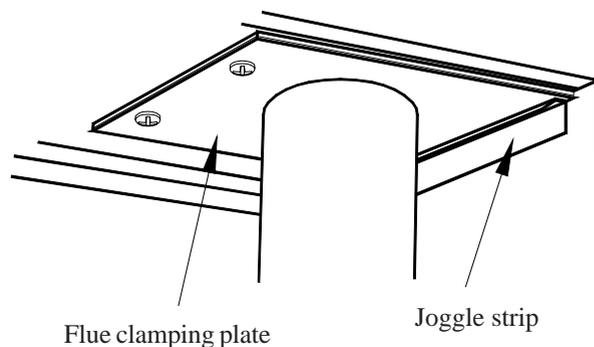

Fig. 2
- 4.8 Align the holes in the insulation pad (provided) with the holes in the flue clamping plate, position the plate and pad assembly with the holes to the front, and ensure that the rear edge locates OVER the joggle strip on the air heater rear panel. Secure the plate and pad assembly using the two screws previously removed, ensuring that the sealing gasket is correctly positioned (refer to Fig. 2).